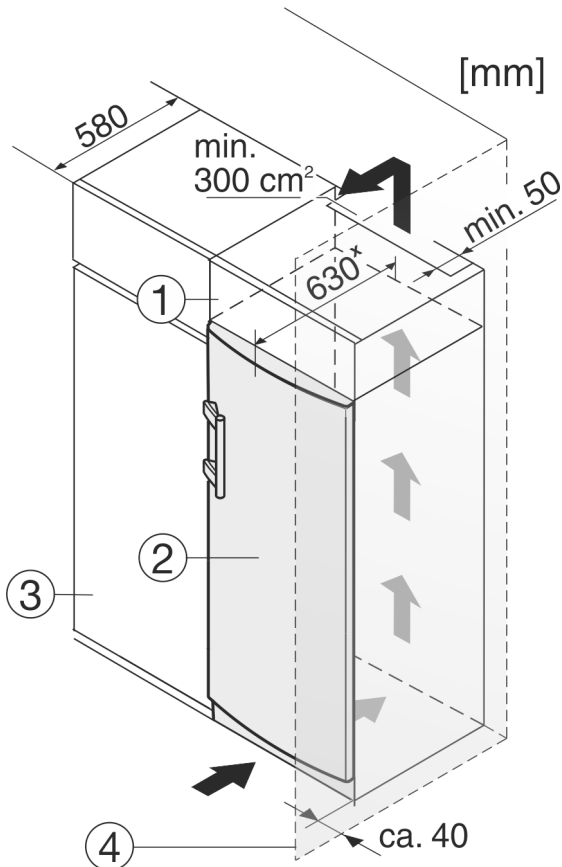

Fig. 12
- (1) Top cupboard (3) Kitchen cabinet
(2) Appliance (4) Wall
The appliance can be built into kitchen units. A top cupboard Fig. 12 (2) can be added above the appliance in order to bring the appliance Fig. 12 (1) up to the height of the fitted kitchen units.
When fitting kitchen cupboards around the appliance (max. depth 580 mm), you can install the appliance directly next to the kitchen cupboard Fig. 12 (3). The appliance protrudes 34 mm * to the side and 50 mm * in the centre of the appliance in relation to the kitchen cupboard front.
If the appliance is set up with the hinges next to a wall Fig. 12 (4), the distance between the appliance and the wall must be at least 40 mm. This is how far the handle protrudes when the door is open.